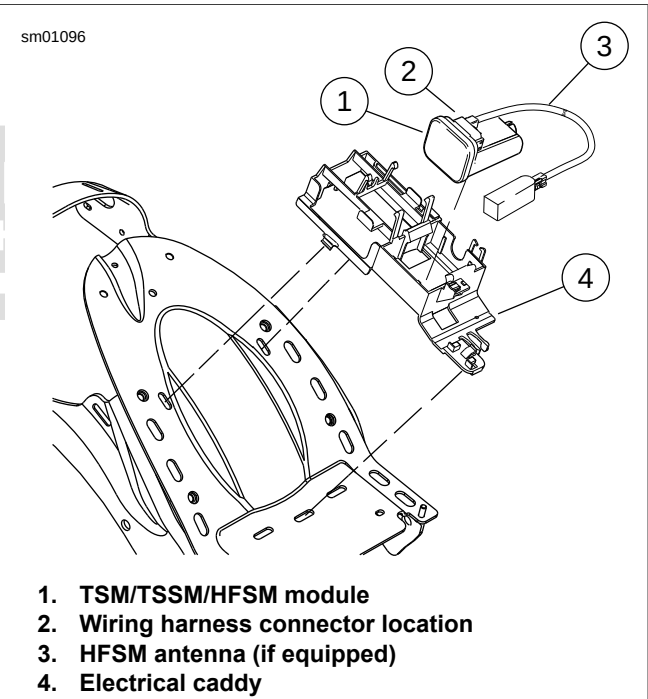

Figure 7-3. TSM/TSSM/HFSM Module
4. See Figure 7-3. Disconnect wiring harness connectors [30] and HFSM antenna connector [208] (if equipped) from module.